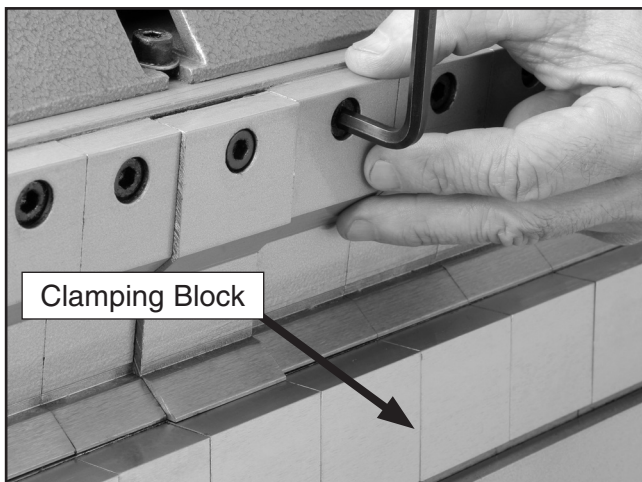

Figure 16. Tightening cap screw on finger.
3. Push the finger firmly against the clamping block and tighten the cap screw, as shown in **Figure 16**.